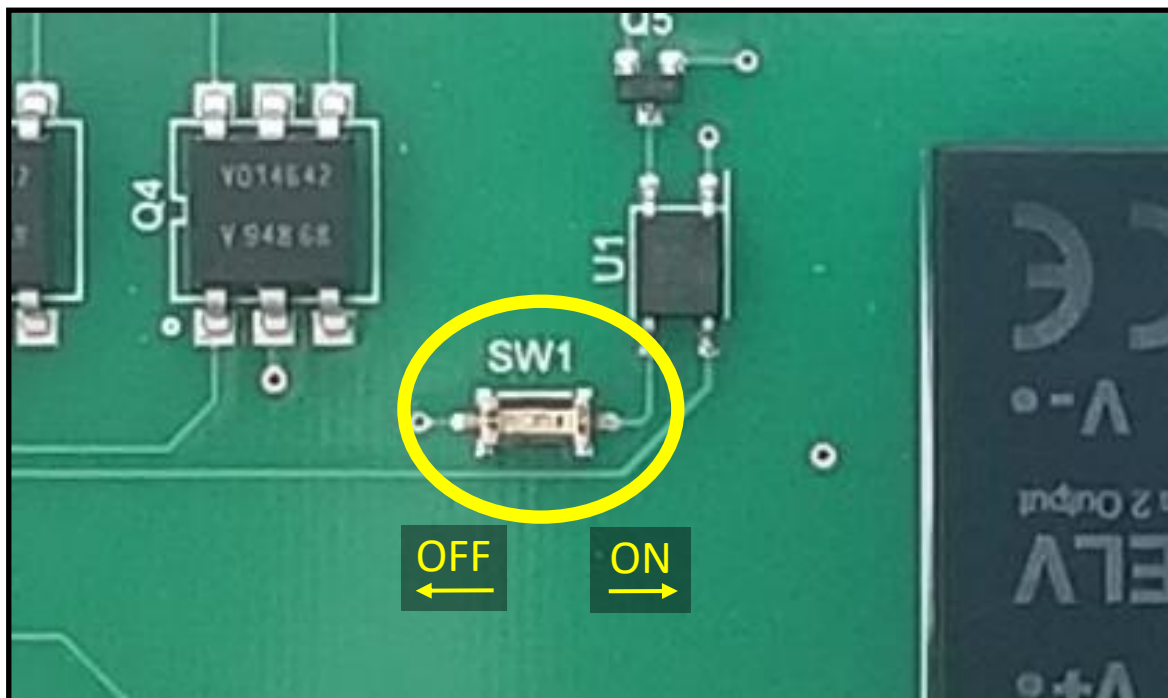

Figure 3
4. Flip the Relay Activation Switch to the "ON" position as indicated in Figure 3.
4. Flip the Relay Activation Switch to the "OFF" position as indicated in Figure3.